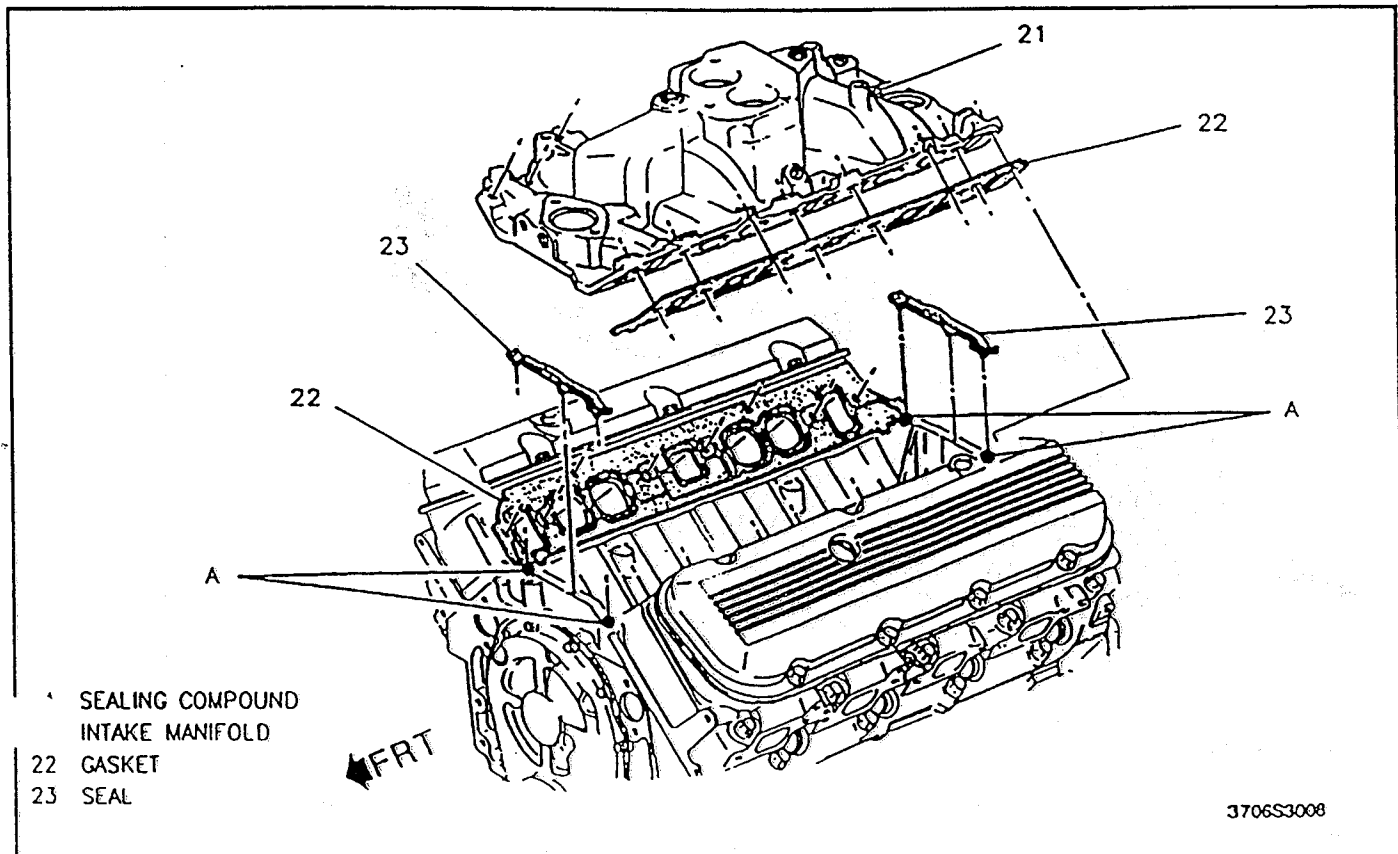

Figure 96—Intake Manifold (7.4L Engines)
↔ Install or Connect (Figures 96 and 97)
1. Gaskets (22) to the cylinder heads.
- Apply a 5 mm (3/16-inch) spot of RTV sealer (GM P/N 1052289 or equivalent) on the front and rear of the block in four places as shown in figure 96.
2. Seals (23) to the block.